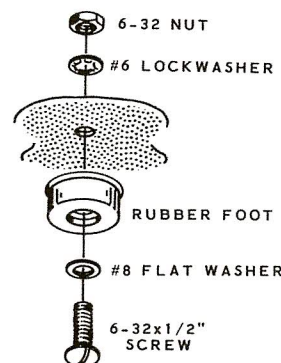

Figure 14D
- ( ) Refer to Figure 14D and mount the rubber feet in the holes in the bottom of the cabinet. Use 6-32 x 1/2" screws, #8 flat washer, #6 lockwasher and 6-32 nuts.